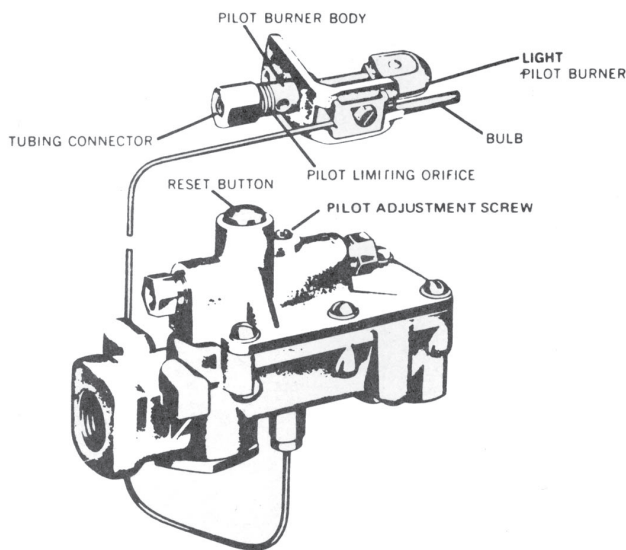

Fig.1
2. Light oven pilot by depressing red reset button (Fig. 1) located on the side control panel above the thermostat knob. Light the pilot and continue to hold the reset button in for one minute.
3. Light oven pilot by depressing the red pilot reset button (see Fig. 1), and using a taper, ignite the pilot. Hold reset button in for 30 seconds, or until pilot remains lit. Turn gas valve back ON.